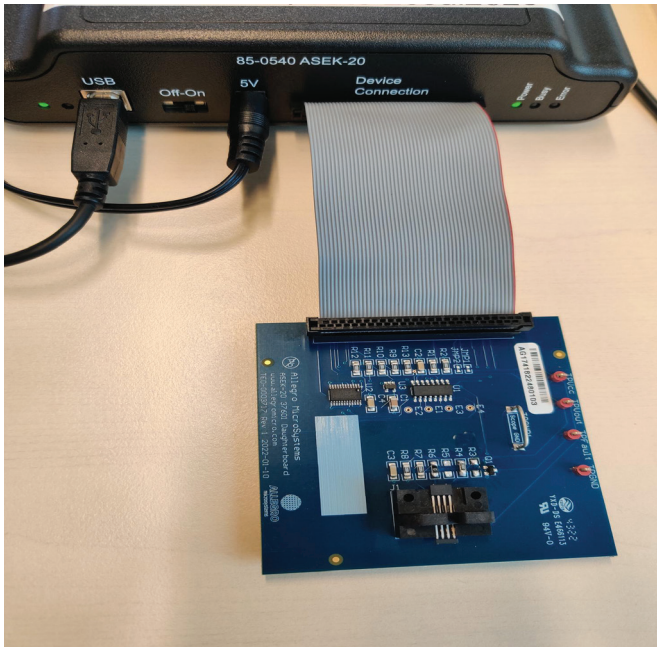

Figure 7: Connection Between ASEK-20 and ASEK37601
3. Connect the other end of the ribbon cable to the DEVICE CONNECTION port on the ASEK-20 chassis, as shown in Figure 7.
1. Place the ACS37503 into the J1 socket, with pin 1 oriented as indicated in Figure 7.